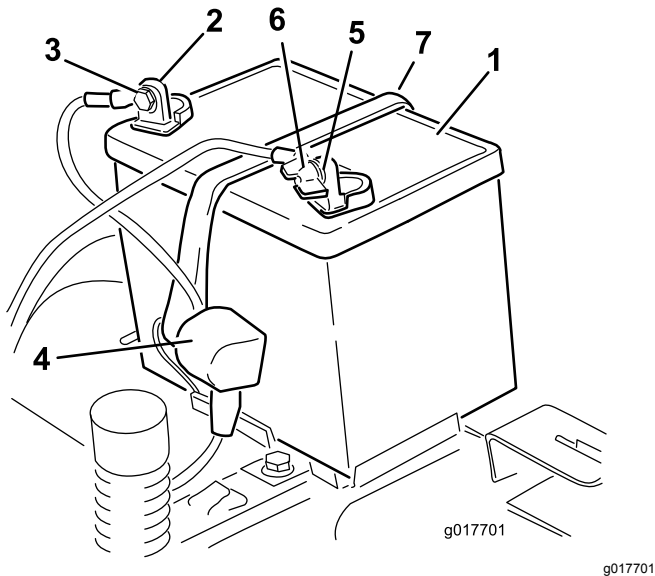

Figure 52
4. Disconnect the negative (black) ground cable from the battery post (Figure 52).
6. Disconnect the positive (red) cable from the battery post (Figure 52).
7. Remove the battery hold-down (Figure 52), and lift the battery from the battery tray.
1. Position the battery in the tray (Figure 52).
5. Secure the battery with the hold-down (Figure 52).